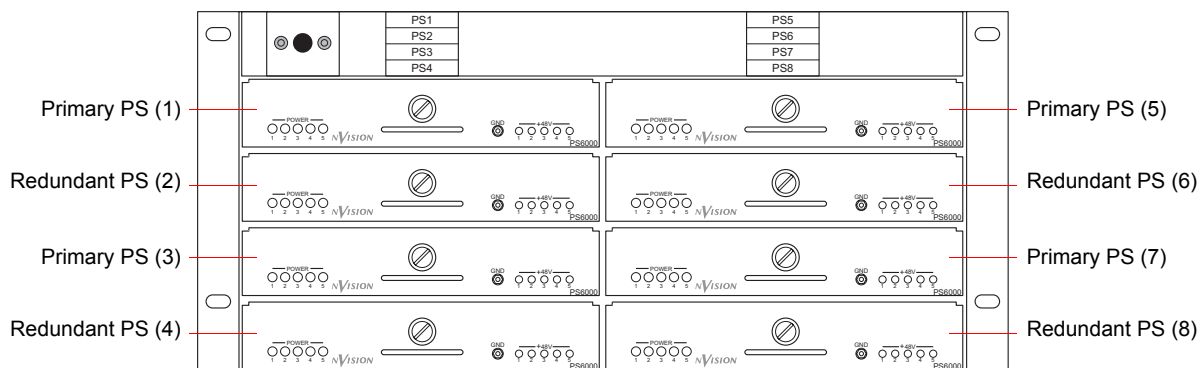

Figure 3-3. NV6257 Power Supply (Front View)
See Figure 3-3 on page 28. Two power supply cables (WC0085), provided by NVISION, are needed to connect a single NV6257 to the two routers.
- a Facing the front of the **NV6257**, install the primary PS6000 power supply modules in slots *PS 1*, *PS 3*, *PS 5* and *PS 7*, as shown in Figure 3-3.
- b (Optional) Facing the front of the **NV6257**, install the redundant PS6000 power supply modules in slots *PS 2*, *PS 4*, *PS 6* and *PS 8*, as shown in Figure 3-3.
- a Facing the front of the **NV6257**, install the primary PS6000 power supply modules in slots *PS 1* and *PS 3*, as shown in Figure 3-3 on page 28.
- b (Optional) Facing the front of the **NV6257**, install the redundant PS6000 power supply modules in slots *PS 2* and *PS 4*, as shown in Figure 3-3.
- a Facing the front of the **NV6257**, install the primary PS6000 power supply modules in slots *PS 1*, *PS 3*, *PS 5* and *PS 7*, as shown in Figure 3-3 on page 28.
- b (Optional) Facing the front of the **NV6257**, install the redundant PS6000 power supply modules in slots *PS 2*, *PS 4*, *PS 6* and *PS 8*, as shown in Figure 3-3 on page 28.